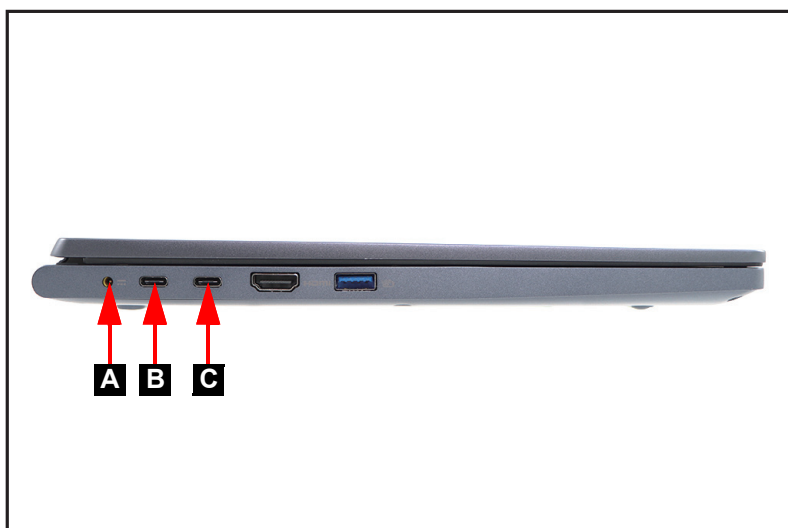

Figure 1-1. Adapter Outlet
2. Remove the AC adapter from the DC-in jack (A) or the power adapter from the USB Type-C port (B or C) as shown in Figure 1-1.